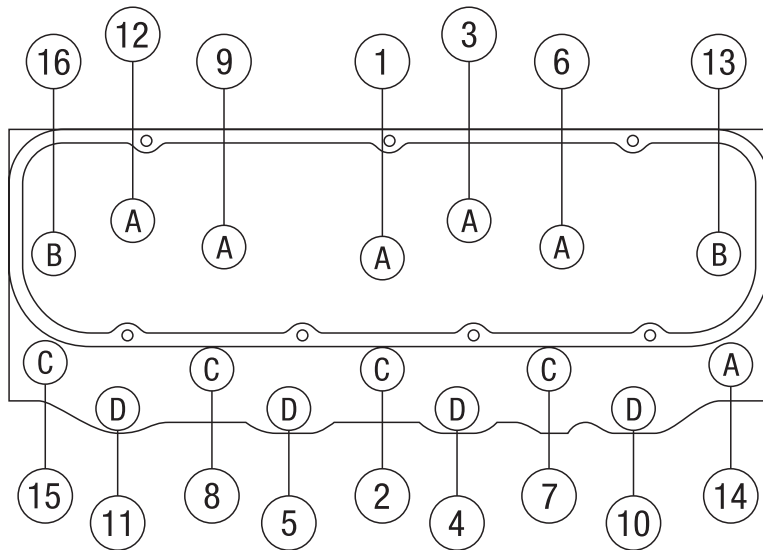

Figure 1 - Big Block Chevrolet Cylinder Head Bolt Torque Sequence
- **HEAD BOLTS OR STUDS:** High quality head studs or head bolts with hardened washers must be used to prevent galling of the aluminum bolt bosses. Edelbrock Head Bolt Kit #8554 can be used on all 1965 and later big-block Chevrolet engine blocks. The head bolt boss heights and required bolt lengths are listed in the "Specifications" section on Page 3. **See Figure 1** for the cylinder head bolt tightening sequence. Bolt threads, underside of bolt heads, and washers should be lubricated with an oil/moly mix prior to installation and torquing. Apply liquid Teflon PST or suitable thread sealant on any bolt threads that go into coolant passages.
Installation is the same as for original equipment cylinder heads. Consult service manual for specific procedures, if necessary. For 454 CID and small Mark IV engines, use Fel-Pro head gasket #1017-1, or equivalent. For 502 CID Mark V and Gen VI engines, use Fel-Pro head gasket #1047, or equivalent. Be sure that the surface of the block and the surface of the head are thoroughly cleaned to remove any oily film before installation. Use alcohol or lacquer thinner on a lint-free rag to clean. Apply oil or suitable thread lubricant to head bolt threads and the underside of bolt heads and washers to prevent galling and improper torque readings. Apply liquid Teflon PST or other suitable thread sealant on any bolt threads that go into coolant passages. Torque bolts to 70 ft./lbs., following the factory tightening sequence (**See Figure 1**). A re-torque is recommended after the initial start-up and cool-down (allow 2-3 hours for adequate cooling).